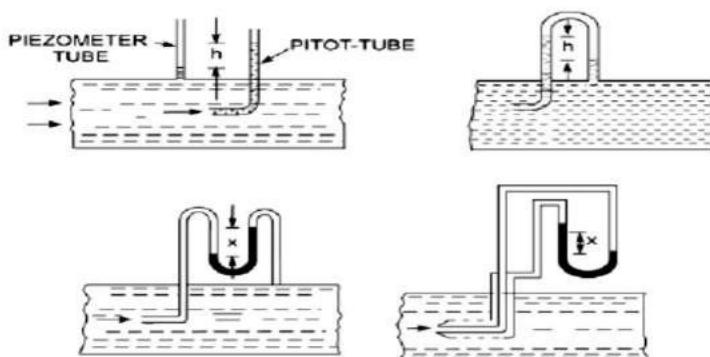

Fig. 5.8 Pitot tube with differential U-tube manometer
- Pitot tube with U-tube differential manometer is shown in fig. 5.8.